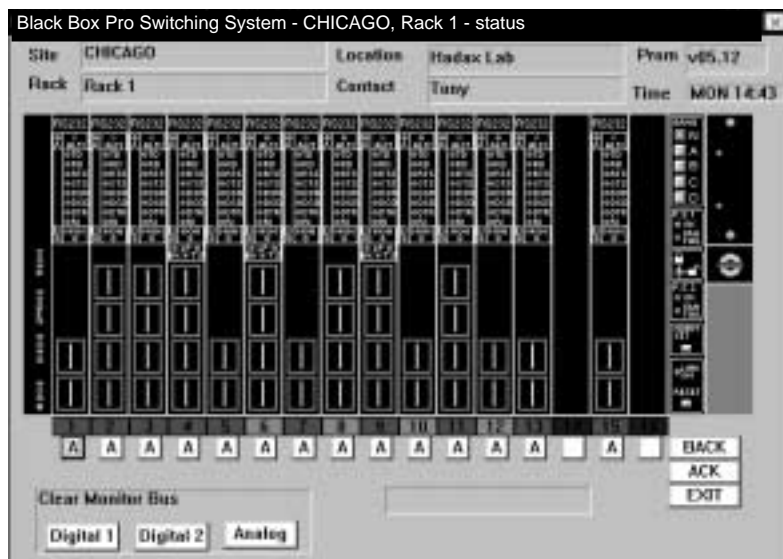

Figure 6-34. Rack Status Screen.
2. Double-click on a specific Pro Switching System rack icon. A real-time front view of the rack appears (Figure 6-34).